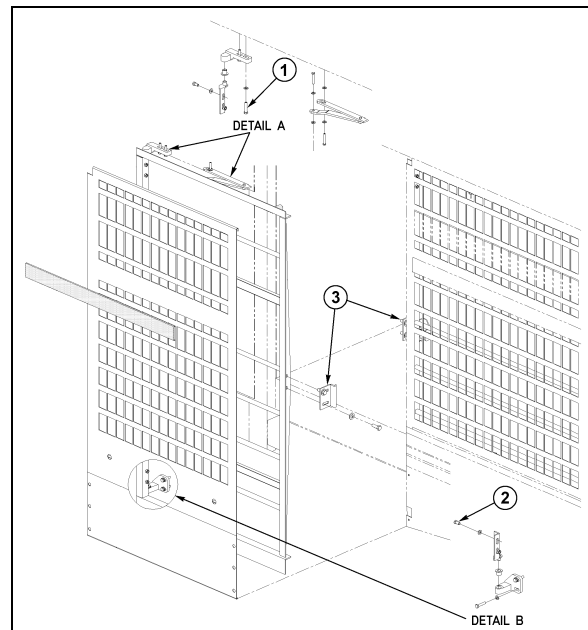

FIGURE 73: SMALL RADIATOR DOOR
1. Loosen the bolts, (1, Fig. 73) holding the hinge to the vehicle structure to shift the door "IN or OUT" and "UP or DOWN".
2. Loosening the bolts (2, Fig. 73) allows the door to be shifted "LEFT or RIGHT" and "UP or DOWN".
To adjust the latch mechanism (3, Fig. 73) and the striker pin: